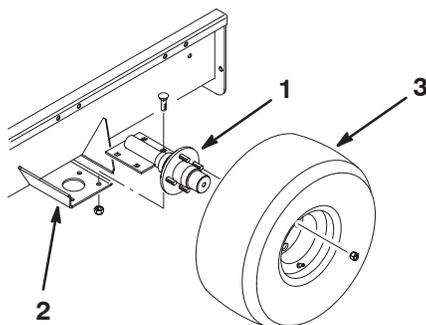

Figure 2
2. Mount an axle to mounting bracket on each side of trailer bed with (4) carriage bolts and locknuts (Fig. 2).
3. Mount a wheel assembly to each axle hub with (4) lug nuts (Fig. 2). Tighten nut to 80 ft/lb. Inflate tires to 5 psi.